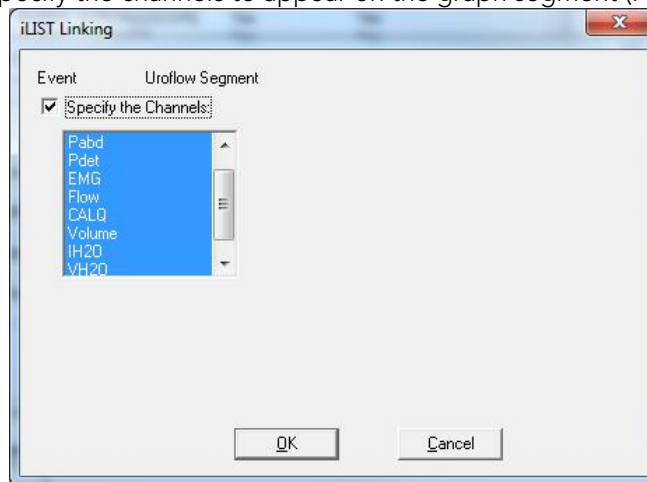

Figure 79: iLIST Linking Window
- Select *Channels* to specify the channels to appear on the graph segment (Figure 79).